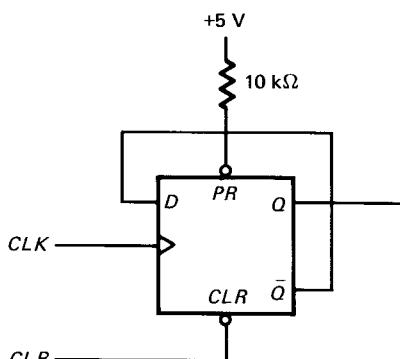

Fig. 7-20
- 7-6. In Fig. 7-20, CLR is taken low temporarily, then high. Draw the timing diagram. If the clock has a frequency of 1 MHz, what is the frequency of the Q output? Is this a divide-by-2 circuit?